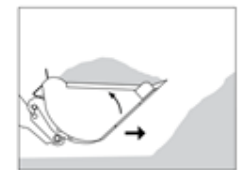

Fig.22↵
3. To fill the bucket, curl the bucket as shown in Fig. 22 as the loader arms are slowly raised. Carry the loaded bucket low until it's necessary to lift it to the loading height.